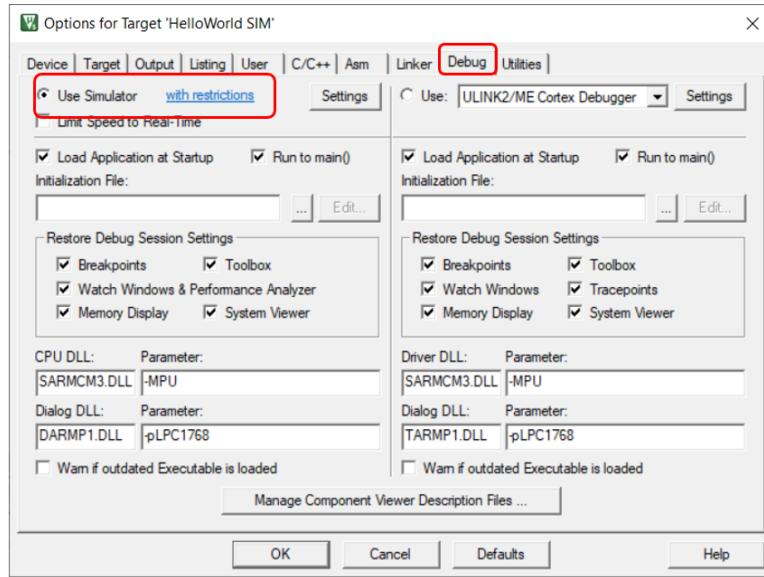

Figure 8.17: Keil IDE: Target Options Debug Tab Configuration
1. Open up the target option window and select “Use Simulator” in the Debug tab page (See figure 8.17).